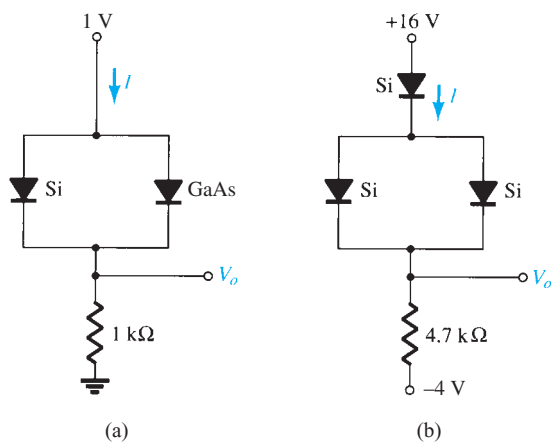

FIG. 2.161
*11. Determine V_o and I for the networks of Fig. 2.161.